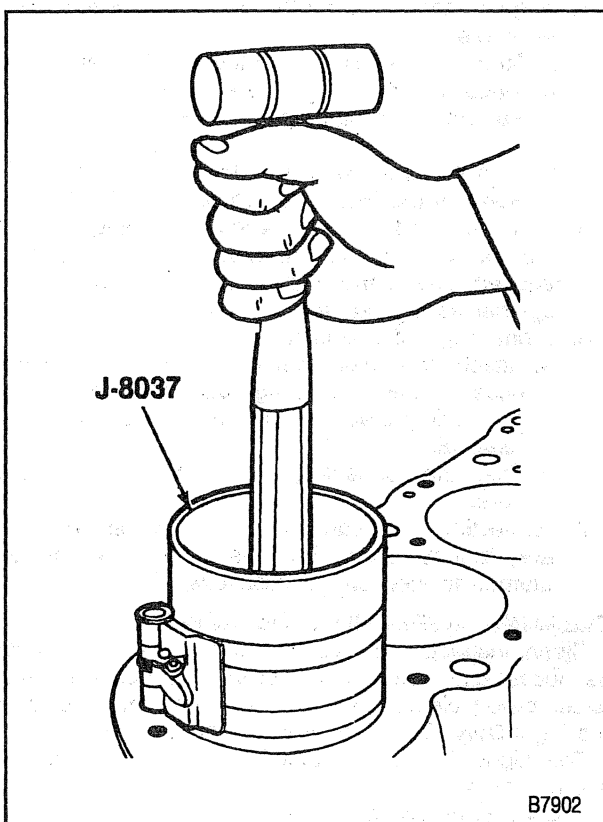

Figure 30—Installing the Piston and Connecting Rod
- C. Without disturbing the ring end gap location, install tool J 8037 over the piston (figure 30).
- E. Place the piston in its matching bore. Using light blows with a hammer handle, tap the piston down into its bore (figure 30). At the same time, from beneath the vehicle, guide the connecting rod to the crankpin with the pieces of hose. Hold the ring compressor against the block until all rings have entered the cylinder bore.
- Connecting rod side clearance. Use a feeler gage between the connecting rod and crankshaft (figure 30). The correct clearance is 0.17-0.63 mm (0.0067-0.0248 inch).